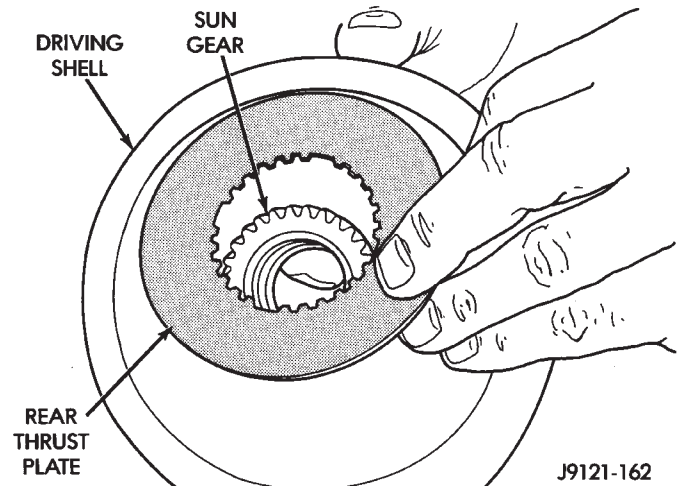

Fig. 181 Installing Driving Shell Rear Thrust Plate
(9) Hold sun gear in place and install thrust plate over sun gear at rear of driving shell (Fig. 181).